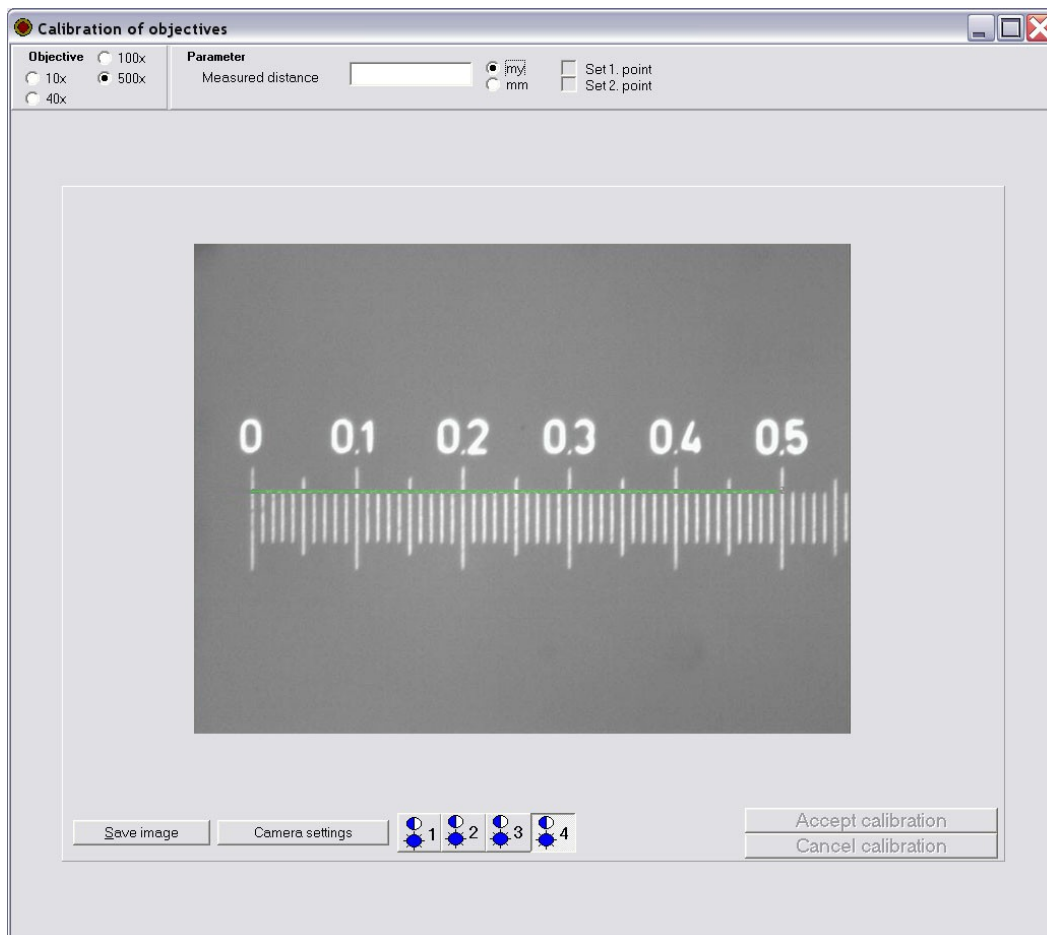

Figure 37
- Select menu item **Calibration**. The dialogue shown in Figure 37 will be opened.